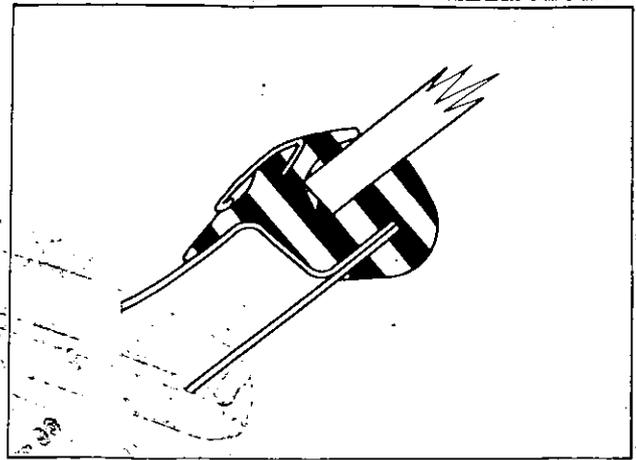

Fig. BF-60 Sectional view of rubber channel
(5) When glass and channel are properly positioned in opening, slowly pull ends of cord, starting at upper center of windshield to seat lip of rubber channel over spot welded flange. Cord should be pulled first across top of windshield, then up each side and finally across windshield bottom.
(6) Using a pressure type applicator, seal inner and outer lips of rubber channel to glass with an approved weatherstrip adhesive as indicated in Figure BF-60 Seal completely around rubber channel.
(7) Reinstall all previously removed parts and remove protective coverings.